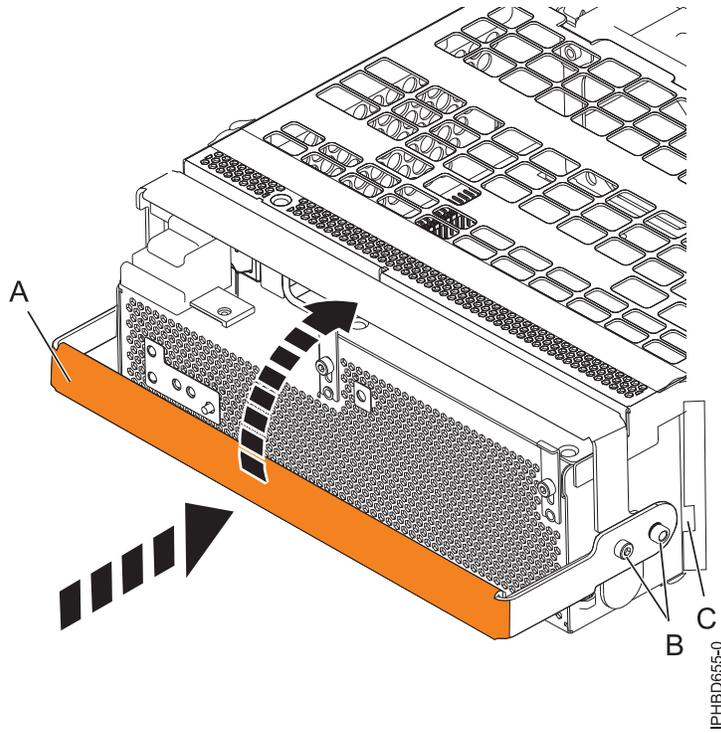

Figure 89. Replacing a power supply
10. To replace the power supply, with the locking handle (A) in the open position, push the power supply into the expansion unit as shown in Figure 89 on page 126.
11. Close the locking handle (A) until the power supply locks into position.